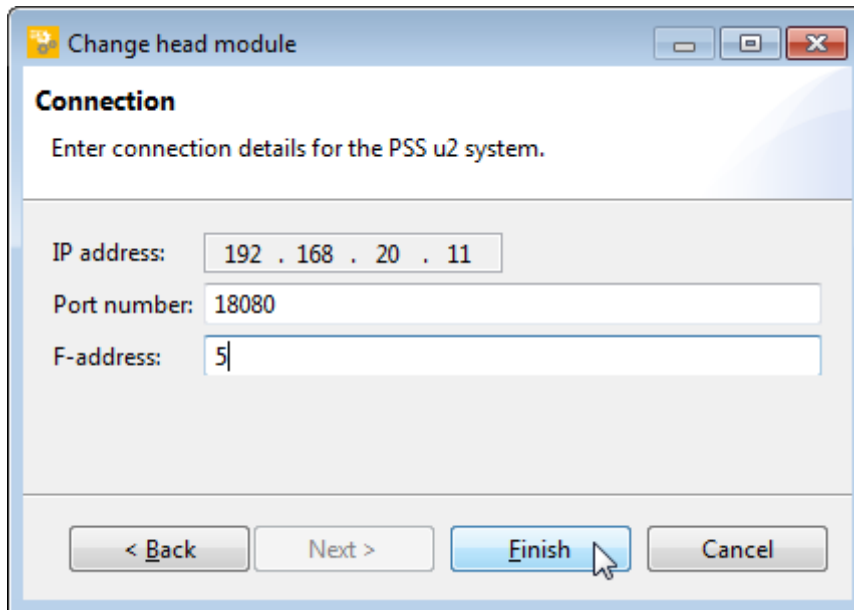

Figure 55: PASconfig – Head module » Function "Change head module" (Part 3, F-address)
- ▶ The only enterable 'F-address' (see Figure 55) corresponds to the 'IN ADDRESS' on the head module, which must now be changed from default value '1' to the specified value '5'.